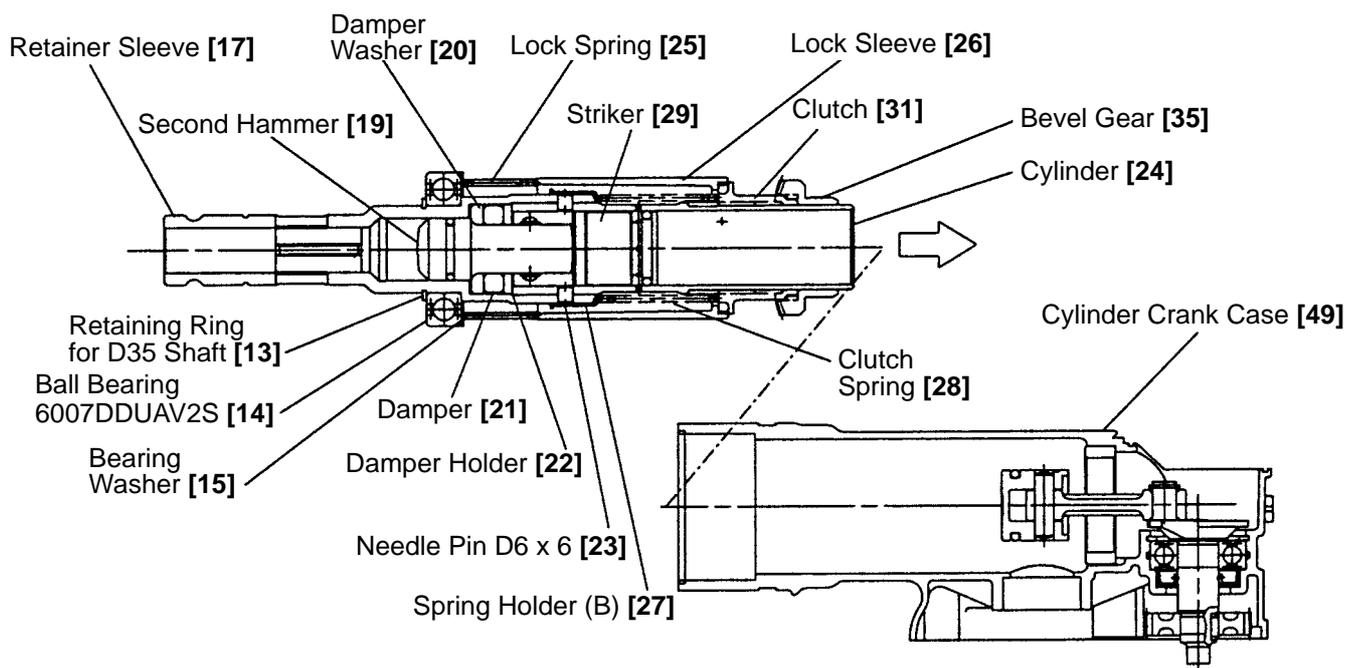

Fig. 22
(3) Reassembly of the cylinder and the retainer sleeve
Press-fit the Retainer Sleeve [17] into the Ball Bearing 6007DDUAV2S [14]. Secure it with the Retaining Ring for D35 Shaft [13]. Mount the Second Hammer [19], Damper Washer [20], Damper [21] and Damper Holder [22] to the Retainer Sleeve [17]. Mount the Damper Washer [20] aligning the R surface of the inside diameter with the R surface of the Second Hammer [19]. Insert the Striker [29] into the Cylinder [24] then insert the Cylinder [24] into the Retainer Sleeve [17]. Secure the Cylinder [24] and the Retainer Sleeve [17] with the four Needle Pins D6 x 6 [23] and cover it with Spring Holder (B) [27]. Mount the Bearing Washer [15], Lock Spring [25], Lock Sleeve [26], Clutch Spring [28], Clutch [31] and Bevel Gear [35] to the Cylinder [24]. Mesh the claw of the Lock Sleeve [26] with the claw of the Clutch [31]. Insert the retainer sleeve assembly into the Cylinder Crank Case [49] aligning the spline of the Lock Sleeve [26] with the spline groove at the inner circumference of the Cylinder Crank Case [49]. If the slip clutch assembly and the Lever Shaft [75] are mounted in the Cylinder Crank Case [49] first, the Bevel Gear [35] will be an obstacle to reassembly. Before mounting the slip clutch assembly and the Lever Shaft [75], mount the retainer sleeve assembly to the Cylinder Crank Case [49] (Fig. 22).